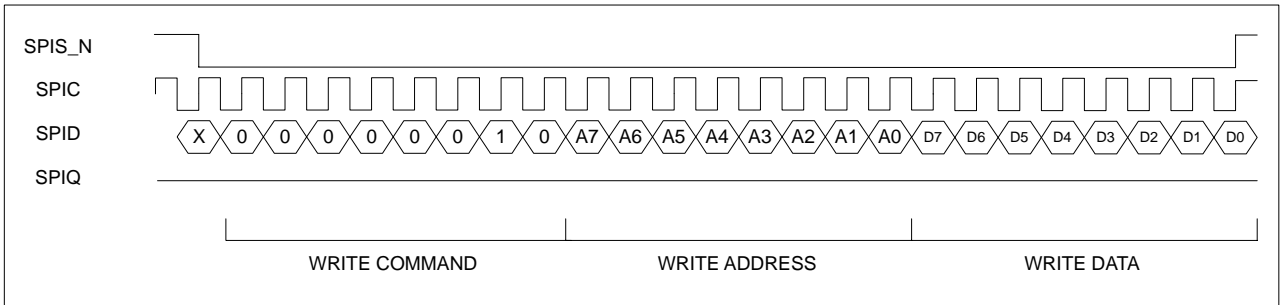

Figure 8. SPI Write Data Cycle
4. Write configuration to registers using a typical SPI write data cycle as shown in Figure 8 or SPI multiple write as shown in Figure 10. Note that data input on SPID is registered on the rising edge of SPIC.